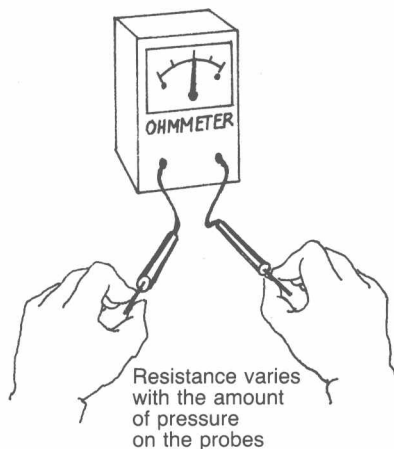

FIGURE 1-7 Measuring body resistance.
Resistance Electrical *resistance* (R) is defined as the opposition to the flow of current in a circuit and is measured in ohms (Ω). *The lower the body resistance, the greater the potential electric shock hazard.* Body resistance varies with the condition of the skin and the area in contact. Typical body resistance values are listed in Table 1-1. Body resistance can be measured with an instrument called an *ohmmeter* (Figure 1-7).